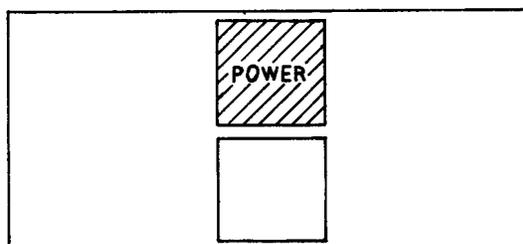

Figure 3 - Operational Control Cluster for 2540 Buffer Set
3.03 There are two buttons in the operational control cluster of the 2540 Buffer Set (Figure 3) which are used in the following manner.